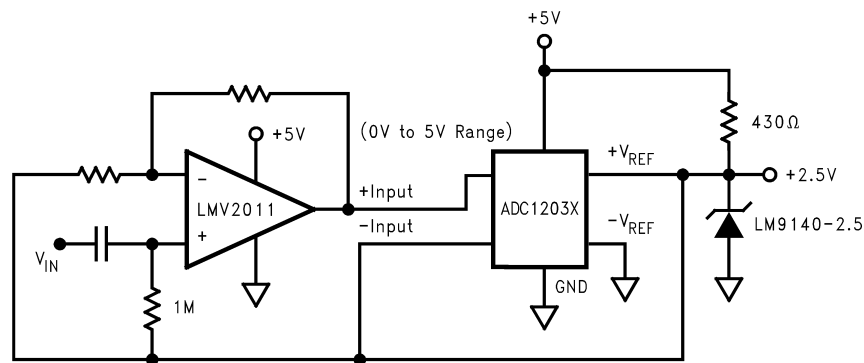

FIGURE 7.
The LMV2011 is a great choice for an amplifier stage immediately before the input of an ADC (Analog-to-Digital Converter), whether AC or DC coupled. See Figure 7 and Figure 8. This is because of the following important characteristics:
- E) Rail-to-Rail output swing maximizes the ADC dynamic range in 5-Volt single-supply converter applications. Below are some typical block diagrams showing the LMV2011 used as an ADC amplifier (Figure 7 and Figure 8).